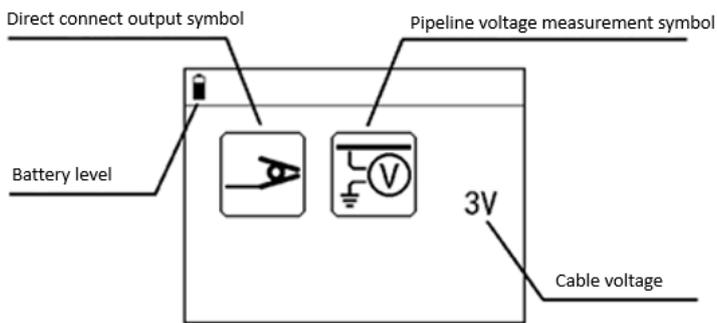
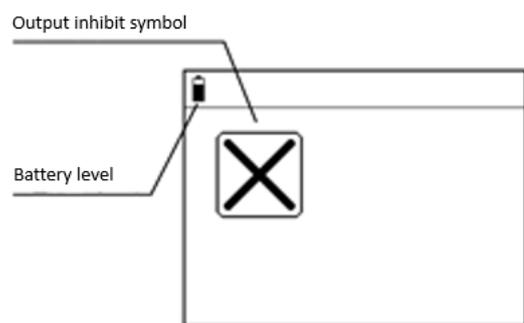

Figure 3.3a Direct connection mode cable voltage measurement
Figure 3.3b Direct connection mode no cable detected
Step 3: After completing the wiring, press and hold the power button (Figure 2.2 ⑩) to turn on the transmitter. The transmitter automatically detects the cable and confirms the direct connection mode. In this mode, the voltage of the cable will be measured first - the screen is shown in Figure 3.3a. If the output cable is not detected, the screen appears as Figure 3.3b.